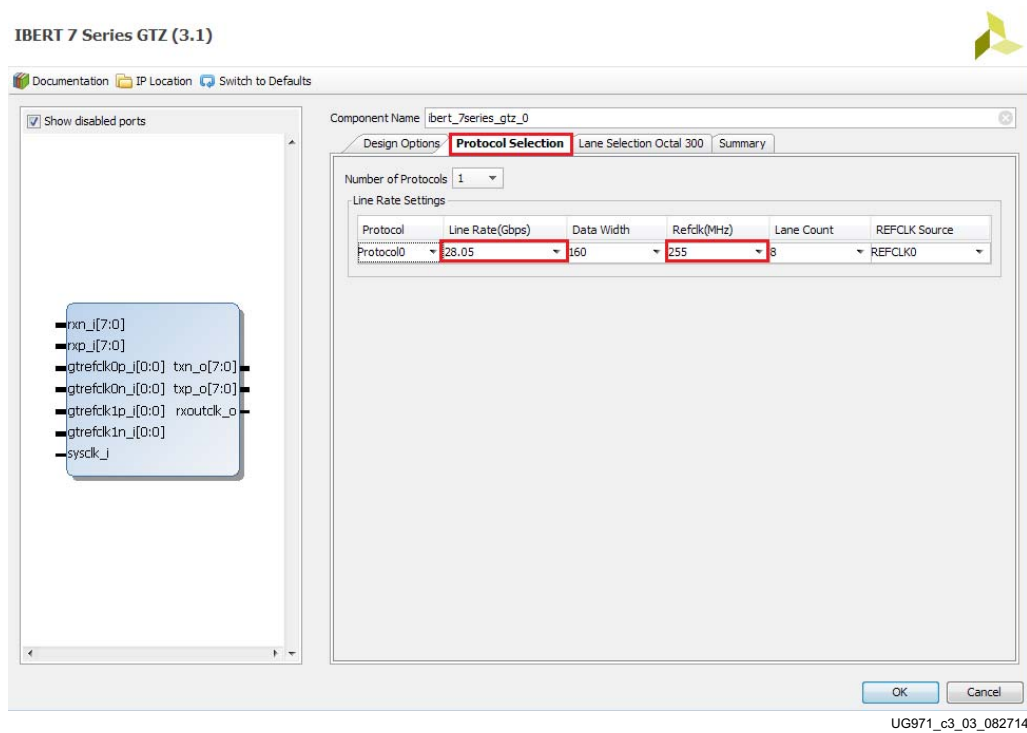

Figure 3-3: Customize IP - Protocol Selection
- In the Protocol Selection tab, set the Line Rate to **28.05 Gbps**, and the reference frequency to **255 MHz** (Figure 3-3).